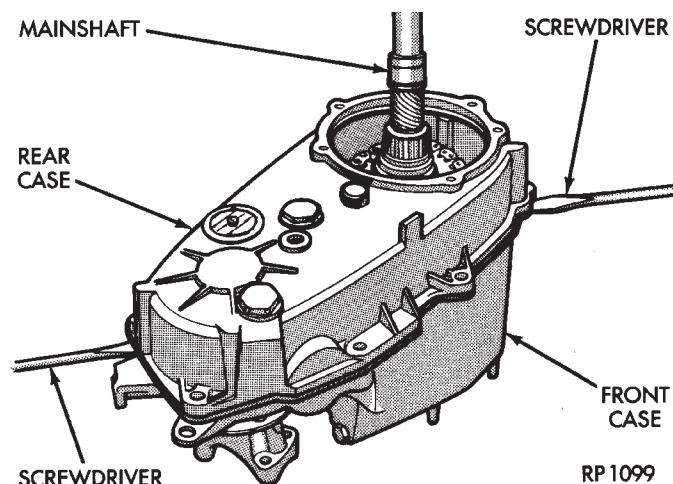

Fig. 4 Loosening Rear Case
- (10) Separate rear case from front case (Fig. 4) Insert screwdrivers into slots cast in case ends. Then gently pry upward to break sealer bead and loosen rear case.